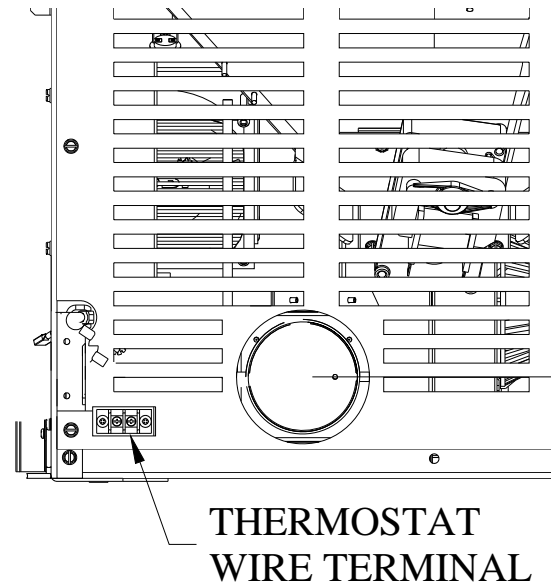

Figure 41
- Connect two thermostat wires to the terminal block located on the lower right side of the back of the stove. To do so, loosen the two screws and insert the wires in the terminals. Tighten the two screws. (See Figure 41)